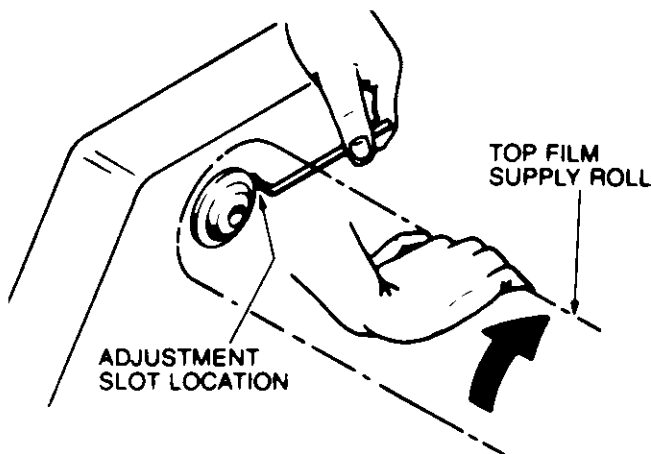

FIGURE 11
6. Insert the allen wrench provided with the laminator into adjustment hole of the top film roll (see figure 11).
7. Rotate film roll until wrench engages internal brake mechanism. While holding the allen wrench in place, rotate film roll in direction of arrow of figure 11 to increase tension.